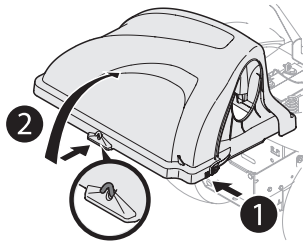

Figure 15
- Open bagger cover by pushing in on the rear, right-side tab with your right hand (1), and lifting the cover with your left hand in the center rear of the bagger cover (2) as shown in Figure 15.